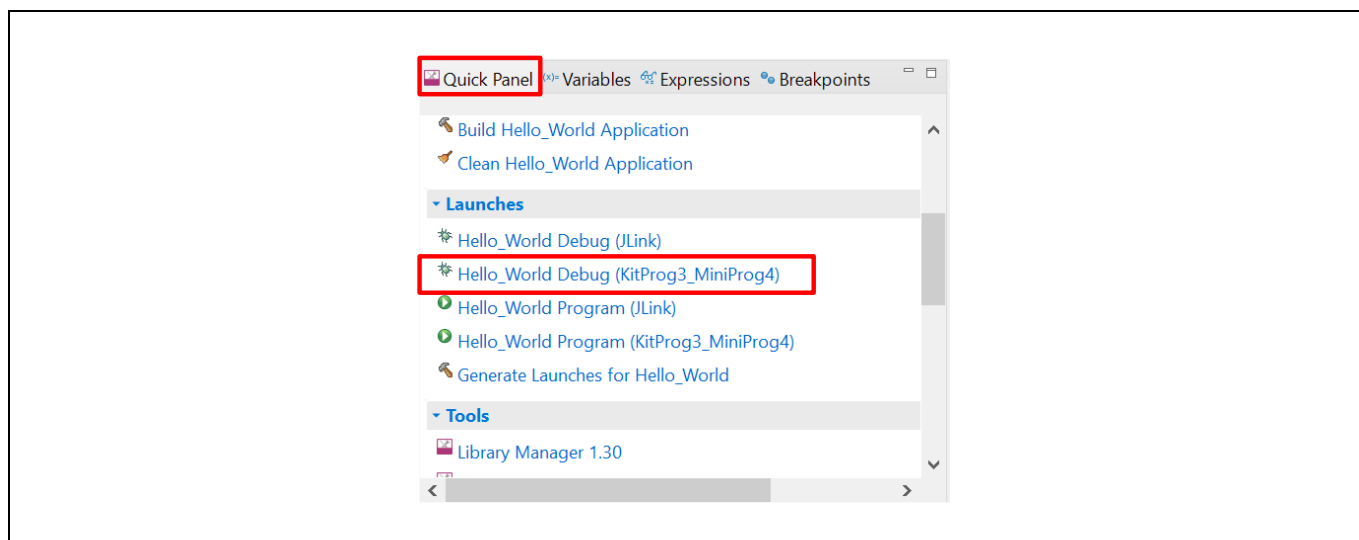

Figure 15 Debugging in ModusToolbox™ software
- ModusToolbox™ software has an integrated debugger. To debug a PSoC™ 6 MCU application, in the Project Explorer, select **<App_Name>** project. In the Quick Panel, scroll to the **Launches** section and click the **<App_Name> Debug (KitProg3_MiniProg4)** configuration as shown in **Figure 15**. For more details, see the “Program and debug” section in the **Eclipse IDE for ModusToolbox™ user guide**.